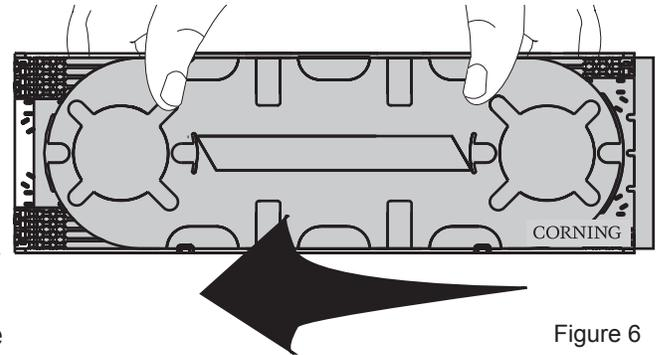

Figure 6
Step 2: Replace the cover by positioning it so that the larger notches are aligned under the tabs and sliding it to the left (Figure 6). It may also be snapped into place.